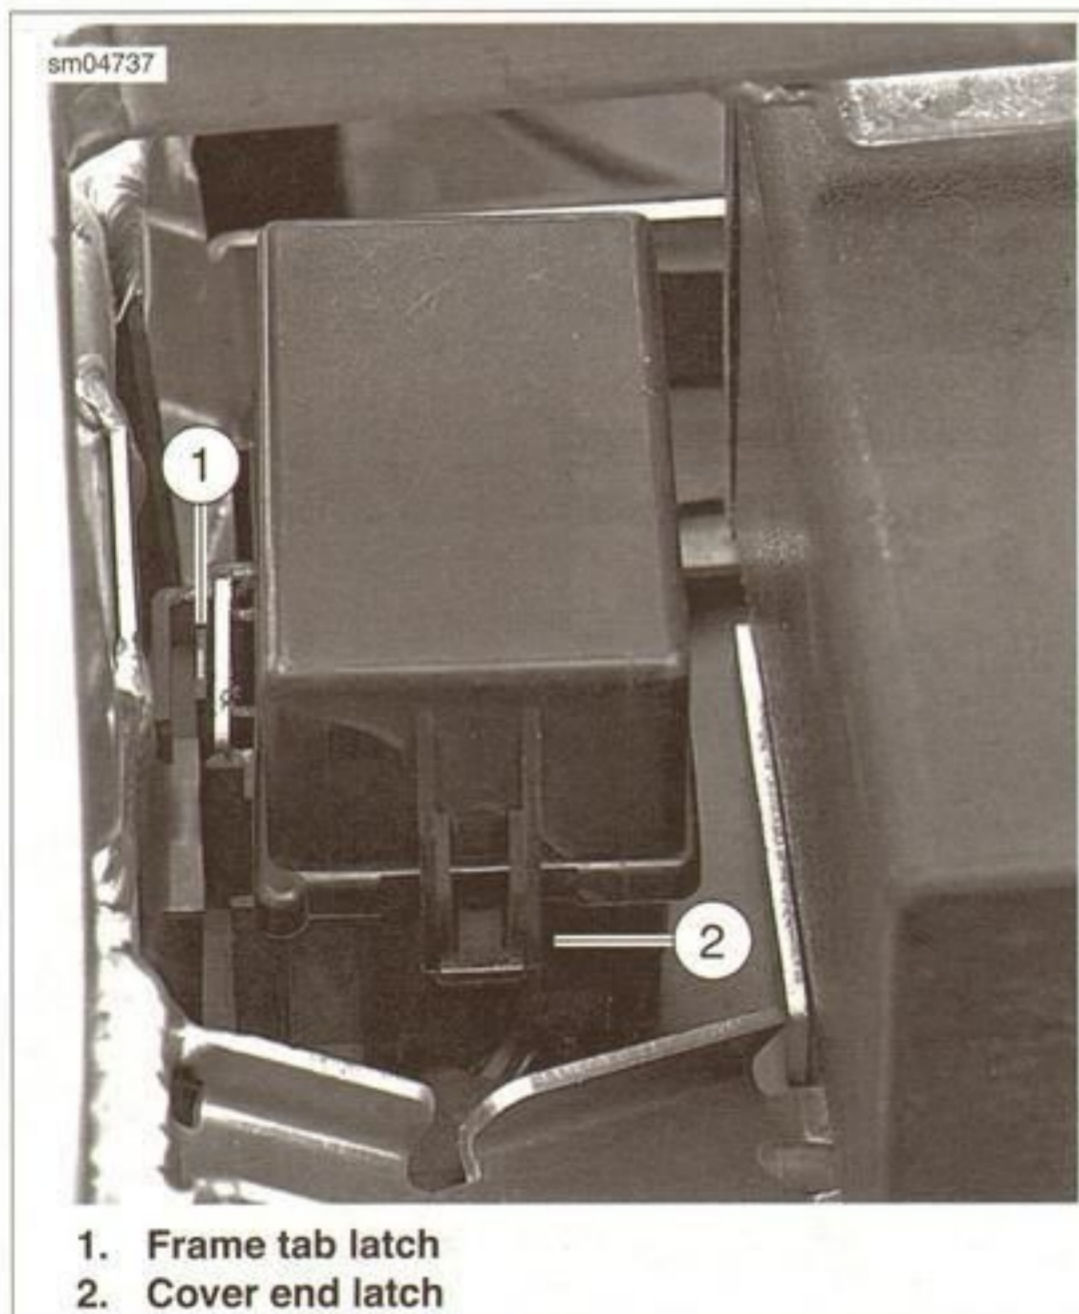

Figure 7-73. Relay Block
3. See Figure 7-73. To remove the relay block, pry the latch (1) open and slide the fuse block off of the metal tab on the subframe.
4. To remove the relay cover, spread the end latches (2).